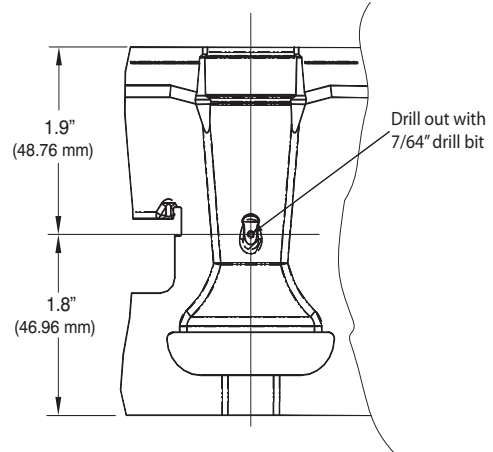

Fig. 5 – Mixer Screw Location
**NOTE:** Each burner contains a mixer screw that must be removed. Refer to Fig. 5 for the mixer screw location.